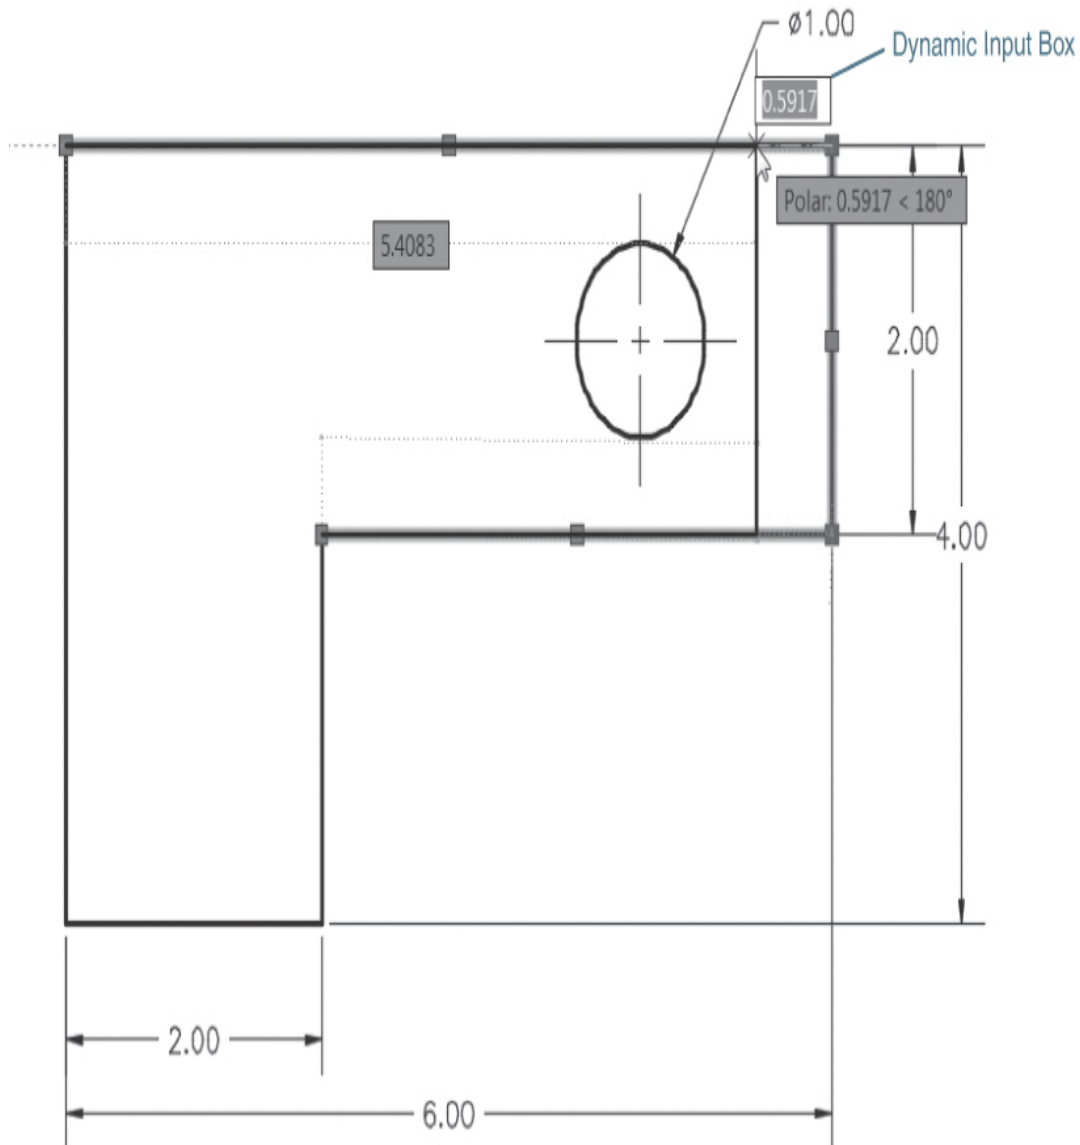

Figure 2-45
- 5** Drag the grip to the left until the polar tracking alignment path appears at 180° . Once the polar tracking appears, type **.5<Enter>** into the dynamic input box (see Figure 2-45).